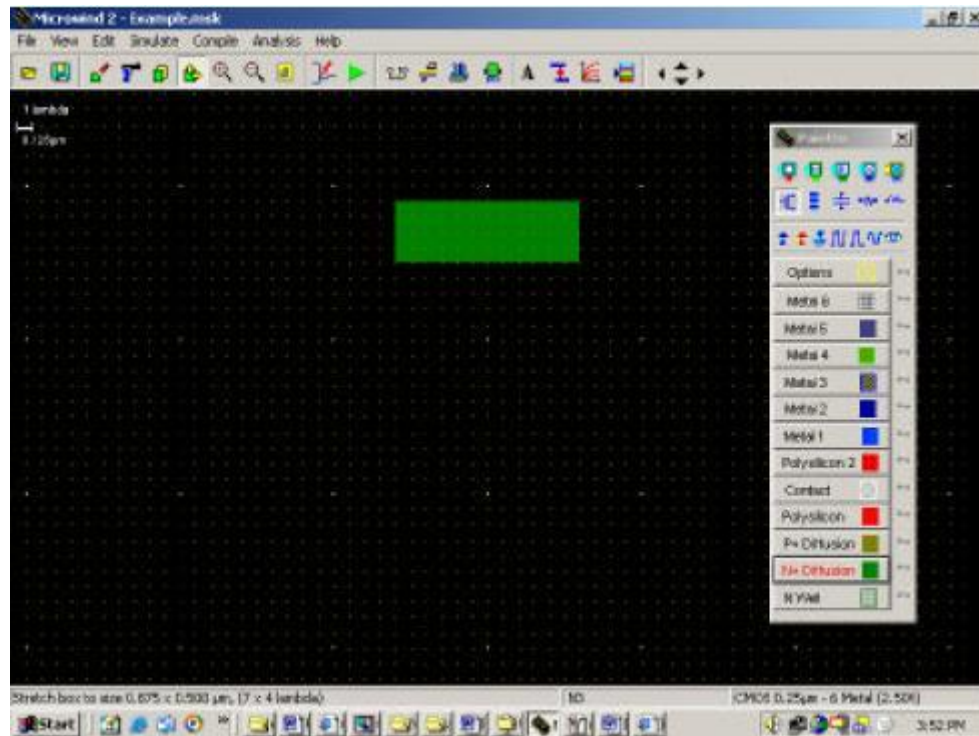

Figure 8: N+diffusion
3. Draw the 0.5□X1.5□□size of the N+ Diffusion in the Microwind. This is shown in the figure 8.